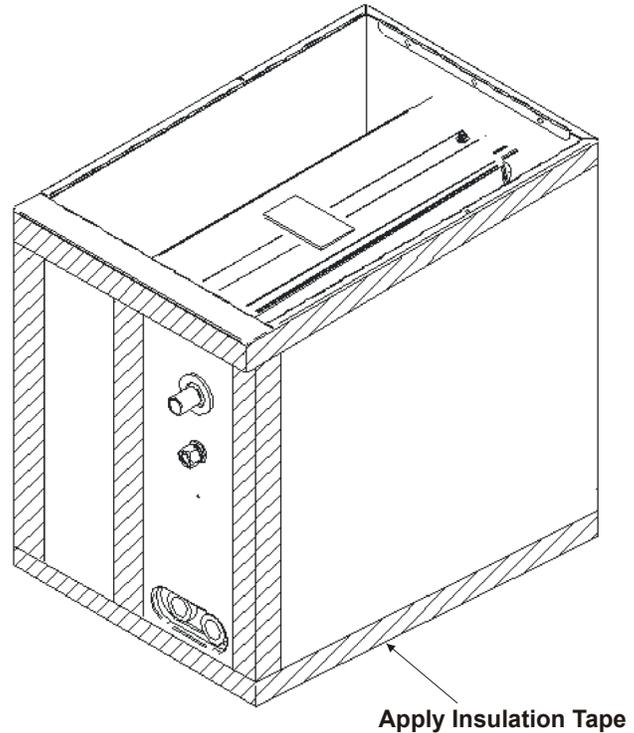

FIGURE 7
**IMPORTANT NOTE:** To prevent cabinet sweating and airflow leak, apply field provided insulation tape along all joining surfaces between the coil, gas furnace, duct work and panels. See Figure 7.